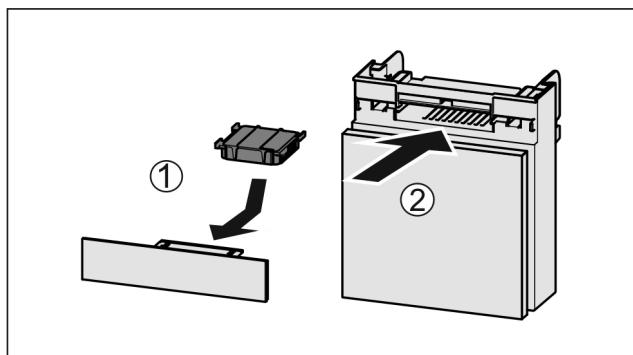

Fig. 160
- Insert the carbon filter as shown in the diagram *Fig. 160 (1)*.
- Push the compartment in *Fig. 160 (2)*.